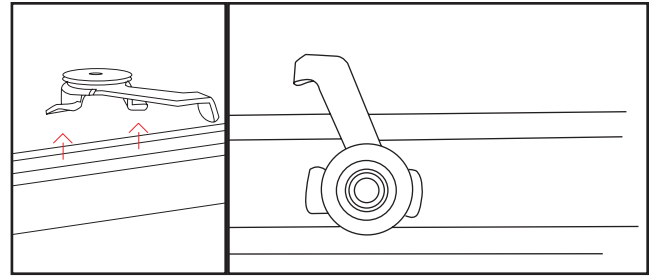

Figure 2.2.1 - Camlock in open position
2.1 - Begin with the camlocks in the open position. See Figure 2.2.1.